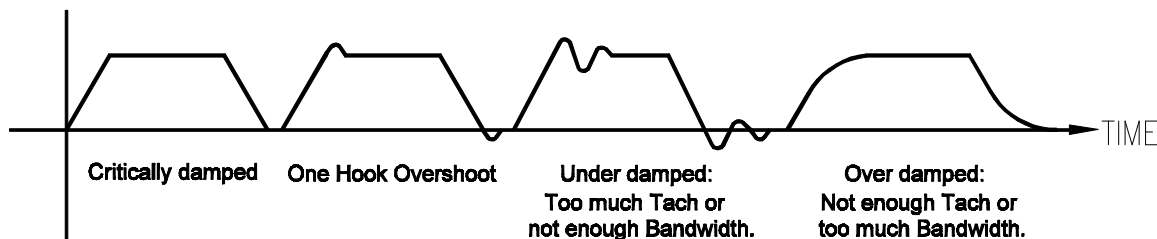

Figure 6.1 Critically damped, One Hook Overshoot, Under and Over damped waveforms
7. Pulse the input and compare the waveform with figure 6.1.